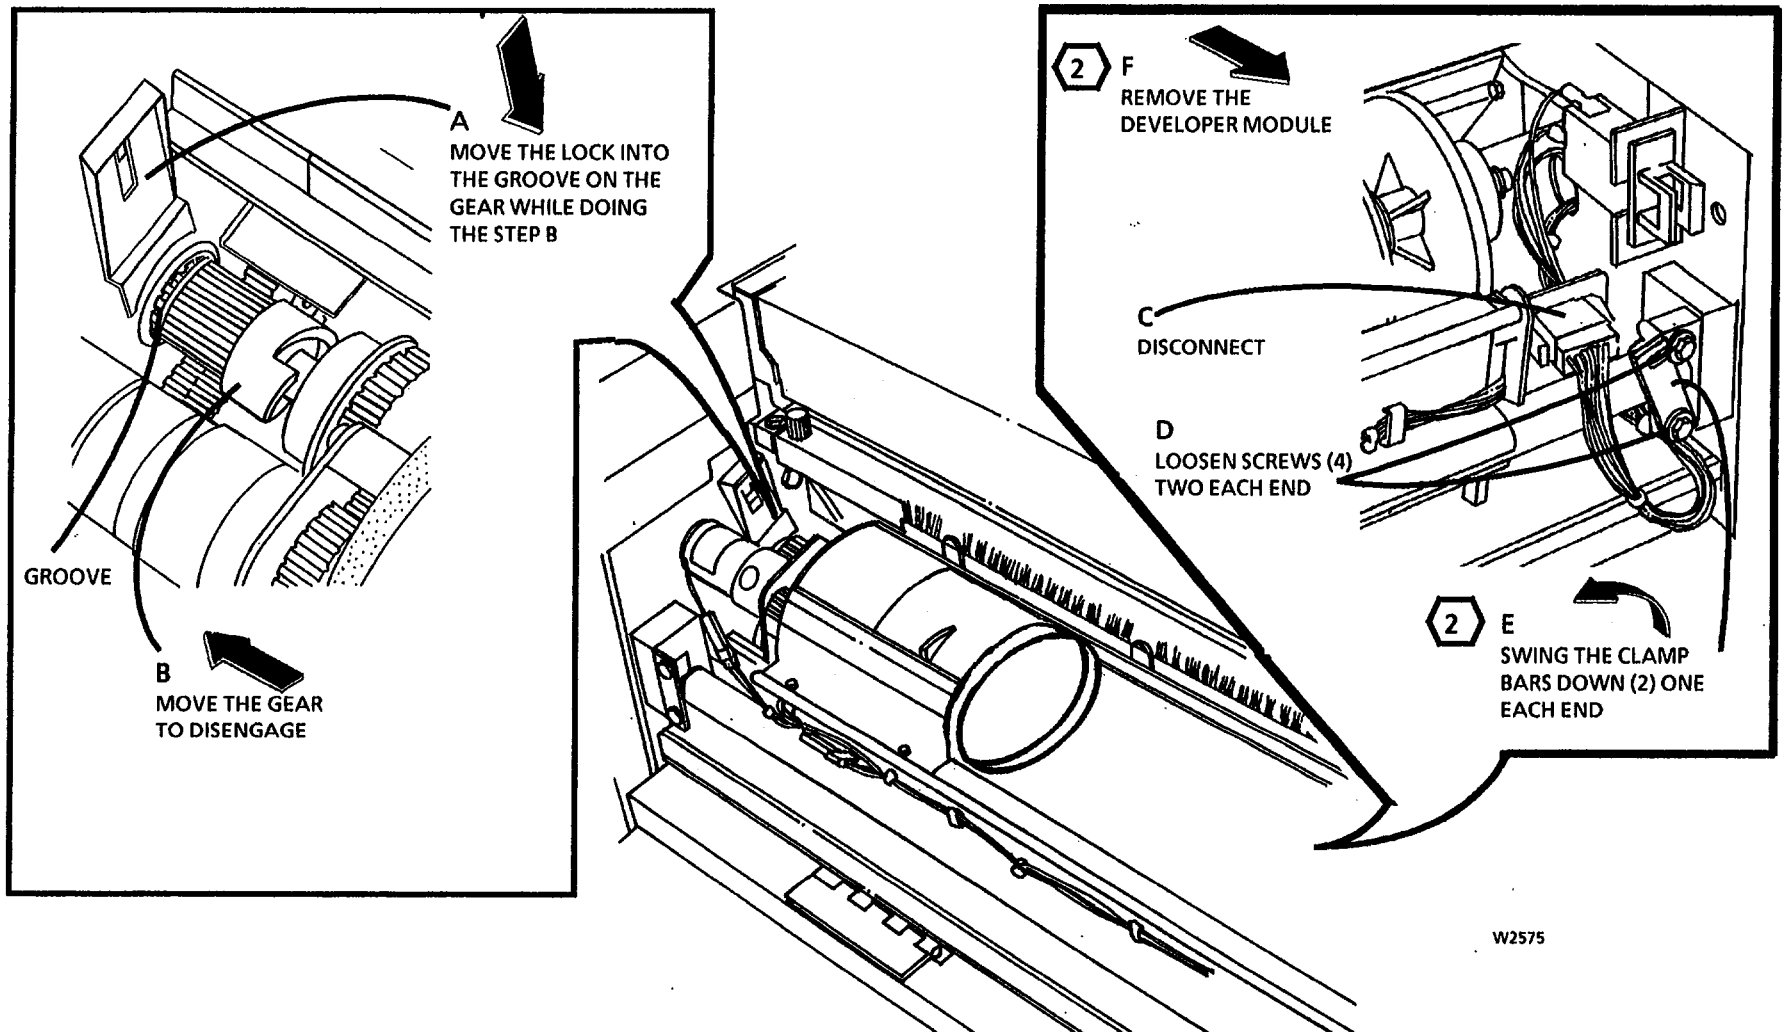

Figure 3. Remove the Developer Module
4. (Figure 3): Remove the Developer Module.